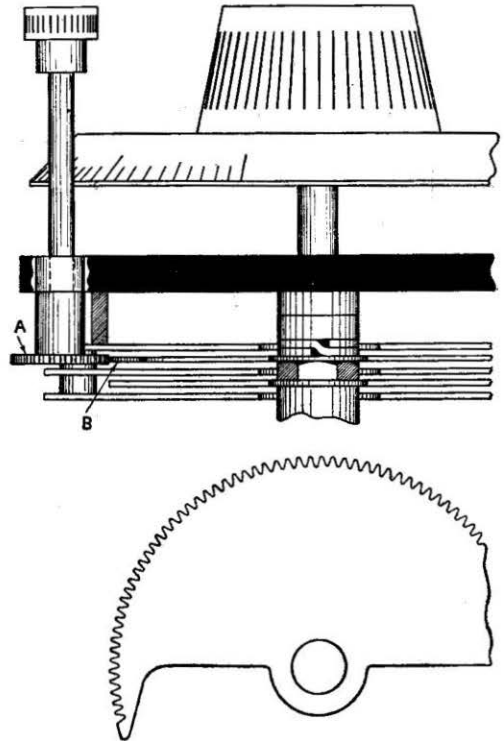

Fig. 12. One sort of slow motion device.
- (3) Probably the best condensers are those which are fitted with a slow motion device. Two types are shown in Figs. 12 and 13. Referring to Fig. 12, the large knob is fixed directly to the shaft carrying the moving plates, and a rough adjustment of capacity is obtained by turning the knob. The small knob at the side carries a gear wheel, A, which engages with the toothed plate, B, shown enlarged at the bottom of the figure. The gear ratio is made large so that one complete turn of the small knob moves the plates a few degrees.